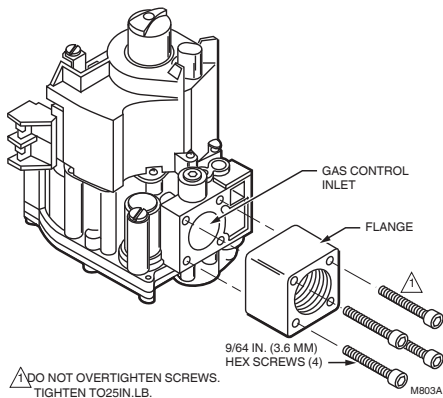

Fig. 3. Install flange to gas control.
4. With the O-ring facing the gas control, align the screw holes on the gas control with the holes in the flange. Insert and tighten the screws provided with the flange. See Fig.3. Tighten the screws to 25 in. lb of torque to provide a gas-tight seal.